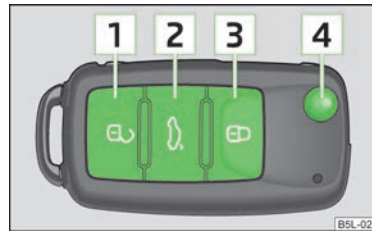

Fig. 13
- › Press the button **1** » Fig. 13.
- › Press the button **3** » Fig. 13.
- › Press the button **3** » Fig. 13 twice within 2 seconds. Further information » page 28.
- › Press the button **2** » Fig. 13. Further information » page 33, *Open/close*.
- › Press the button **4** » Fig. 13.
- › Press the button **4** » Fig. 13 and fold in the key bit.
The turn signal lights flash twice as confirmation that the vehicle has been unlocked. If the vehicle is unlocked using button **1** » Fig. 13 and none of the doors or the boot lid are opened within the next 30 seconds, the vehicle is automatically locked again and the safe securing system or anti-theft alarm system is reactivated. This function is intended to prevent the car being unlocked unintentionally.